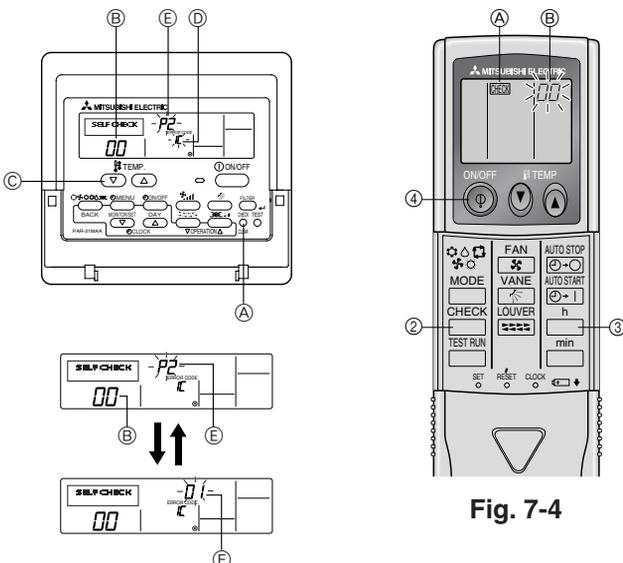

Fig. 7-3
7.3.1. Wired remote controller (Fig. 7-3)
- ① Turn on the power.
- ② Press the **[CHECK]** button twice.
- ③ Set refrigerant address with **[TEMP]** button if system control is used.
- ④ Press the **[ON/OFF]** button to stop the self-check.